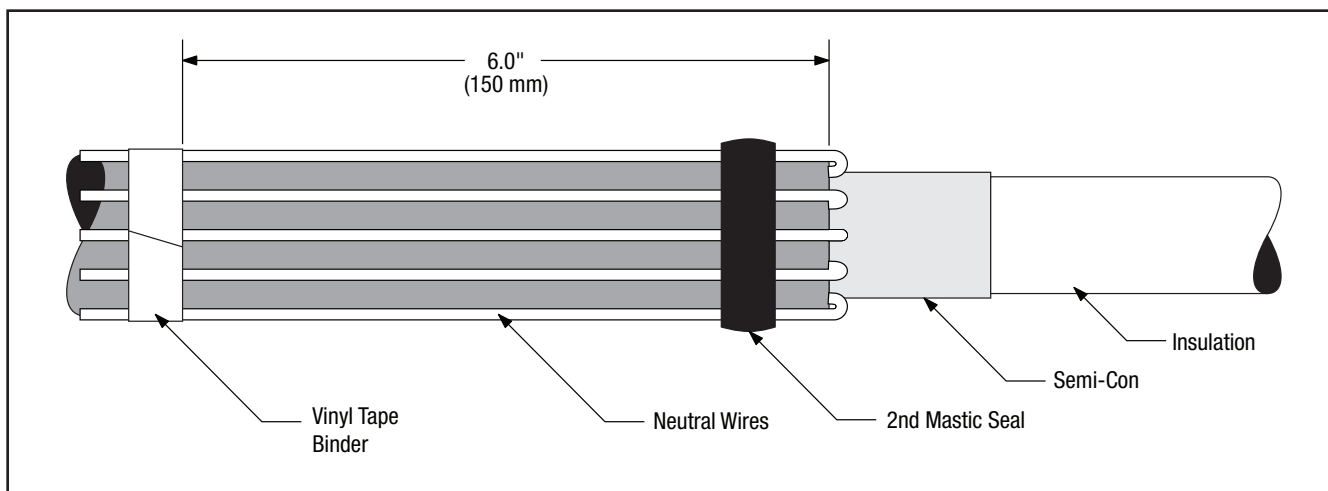

Figure 3
- 1.4 Bend neutral wires back over applied sealing mastic and secure to cable jacket with vinyl tape 6" (150 mm) below jacket cutback. (*Figure 3*)
- 1.5 Select the roll of 1" (25 mm) wide 3M™ Scotch-Seal™ Mastic Tape 2229 from the kit and cut a length of the mastic. Remove the release liner and, using a light tension, apply a single wrap of mastic around the cable jacket over the neutral wires and previously applied mastic. (*Figure 3*)